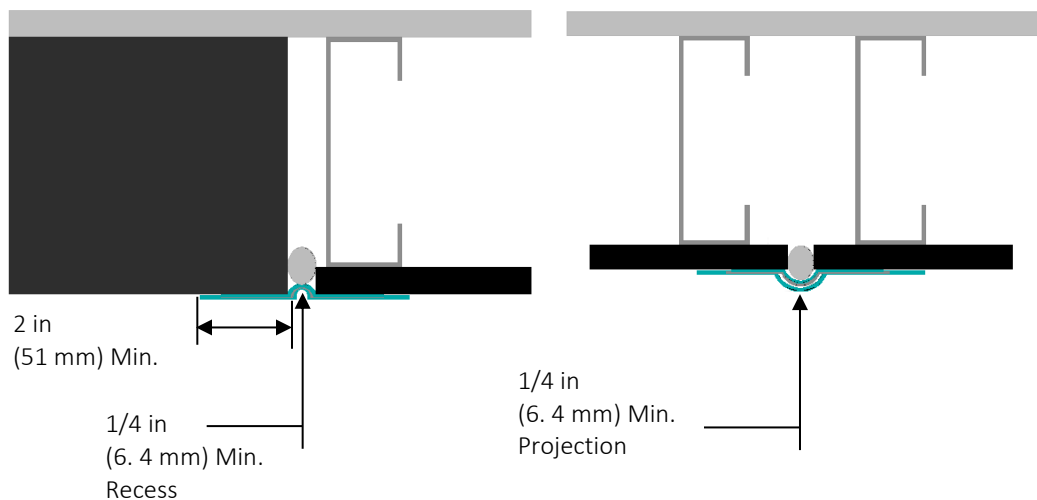

Figure 14
- a. The width of the AquaFlash Mesh must overlap each side of the joint a minimum of 2 in (51 mm) – Figure 14.